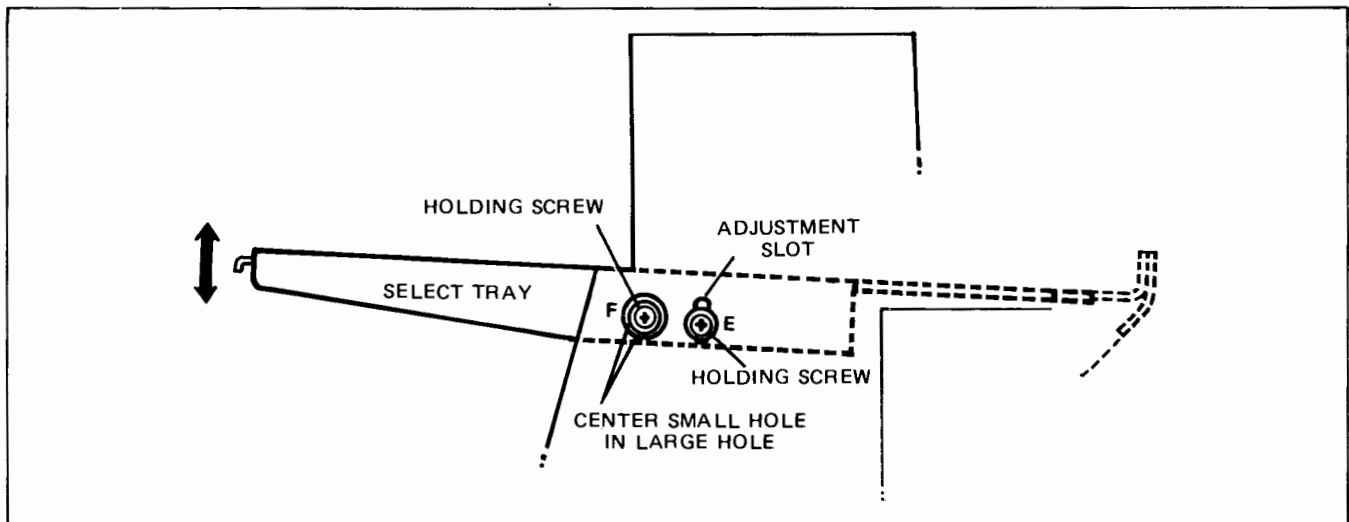

Figure 5-19. Select Tray Adjustment
- a. Loosen holding screws (E).
- b. Move tray until smaller hole approximately centered in larger surrounding hole. See Figure 5-19.
- c. Tighten holding screws (E).